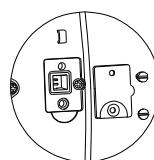

Figure 4-2. LFT pins.
2. Remove the Security Cover under the scale to access the two pins located in a slot (see figure 4-2). Short these pins (a slotted screwdriver may be used), while powering the scale ON. The scale will perform the start-up procedure, and then the display will show the current status [**LFT OFF**] (LFT OFF, unlocked) or [**LFT ON**] (LFT ON, locked); press the 'No' key to change this setting, or press the 'Yes' key to confirm it.